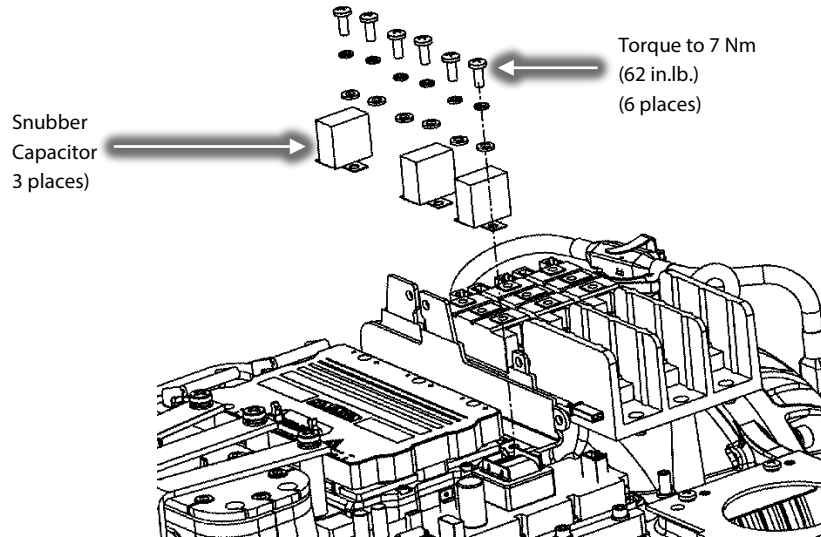

Figure 8 – Snubber Capacitor Removal
15. Disconnect the three (3) snubber capacitors from the Inverter noting the leg orientation of one leg is longer than the other. Refer to Figure 8 (Snubber Capacitor Removal). (TT300 Shown).